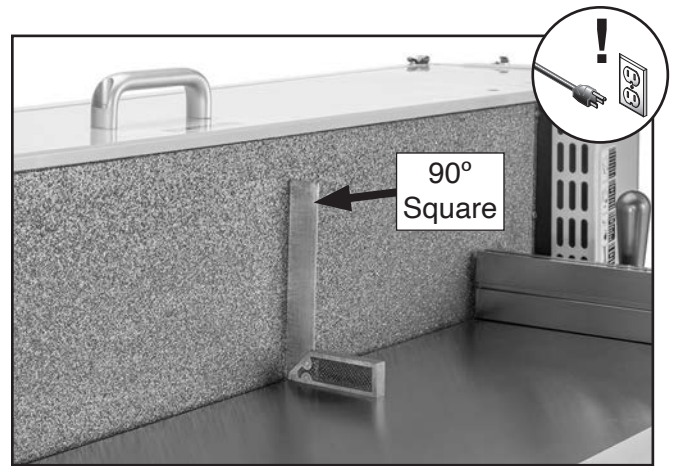

Figure 64. Example of checking platen with 90° square.
5. Place 90° square against table and platen, as shown in **Figure 64**.